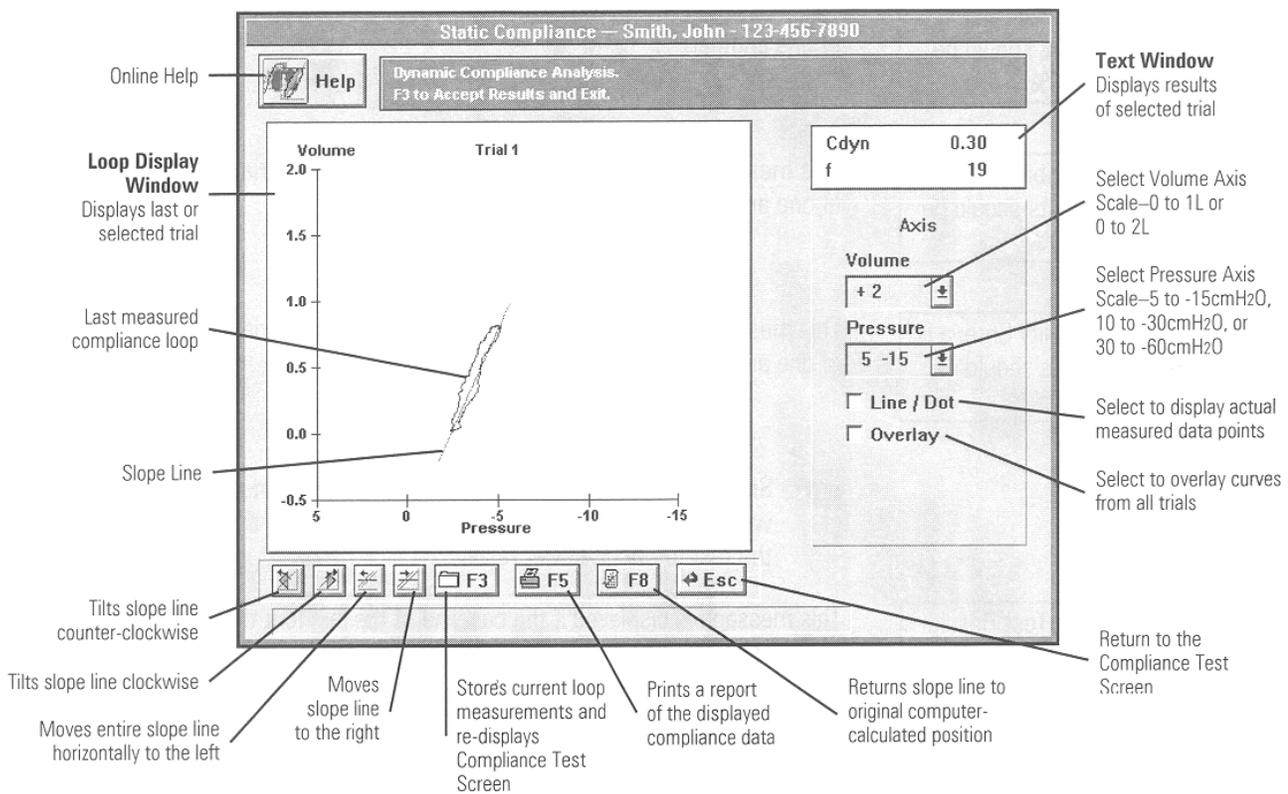

Figure 7-4 – Dynamic Compliance Review Box
1. Select **F7** from the **Dynamic Compliance Test** screen to access the **Dynamic Compliance Review** screen (Figure 7-4).